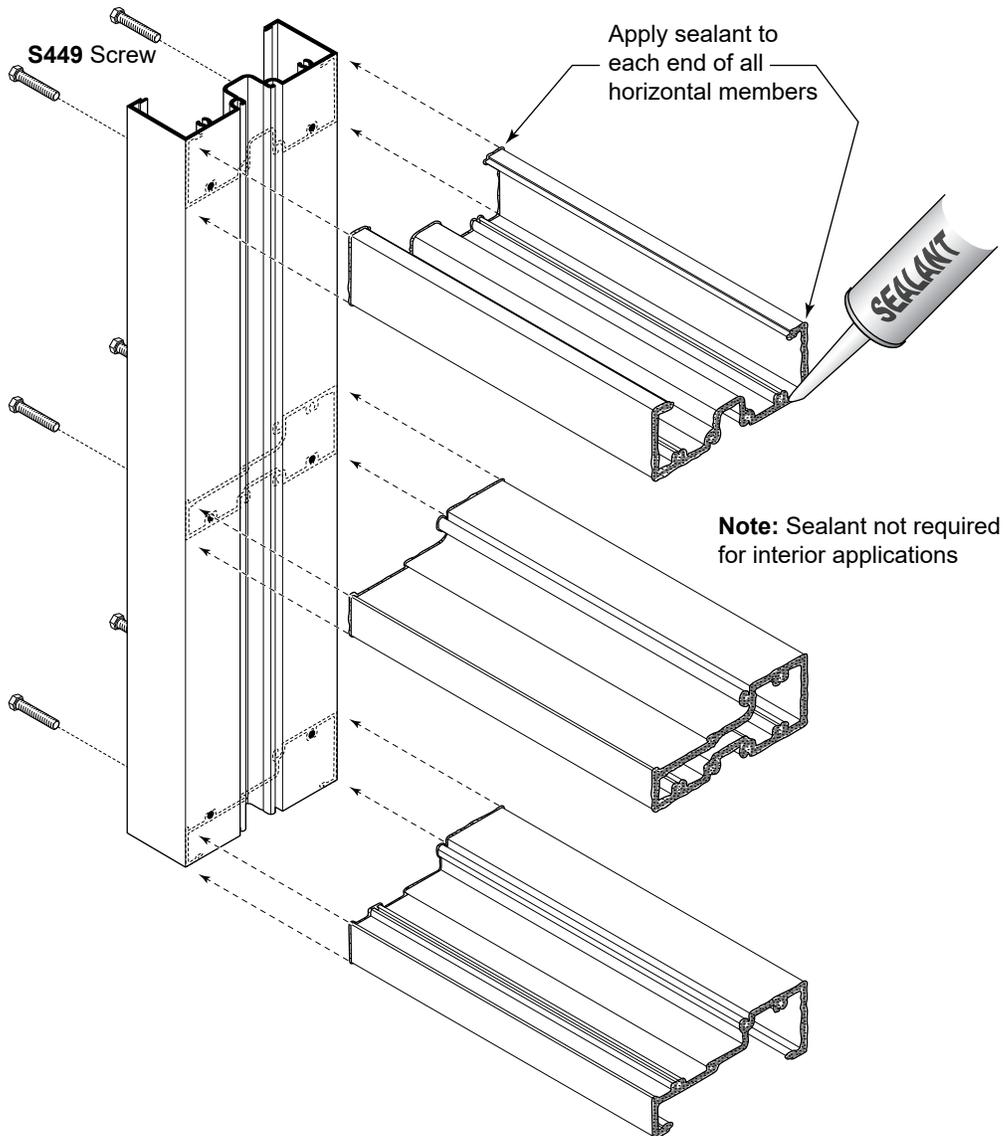

Fig. 31.1
- B. Secure horizontals to vertical using S449 fasteners as shown in **Fig. 31.1**.